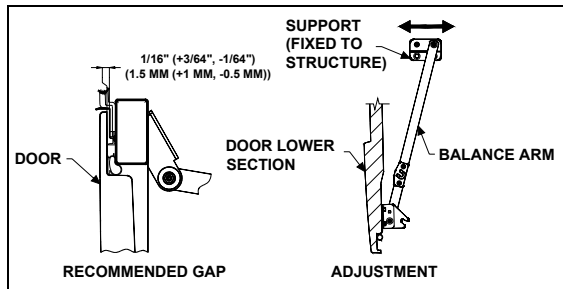

FIGURE 53: BAGGAGE COMPARTMENT DOOR 18071
8. Recheck gap mentioned in step 6. If gap has changed, correct by adjusting arm support fixed to structure. Loosen the bolt supporting the balance arm on door lower section and close the door, gap adjustment will automatically result. Tighten the bolt from inside the compartment (Fig. 53).